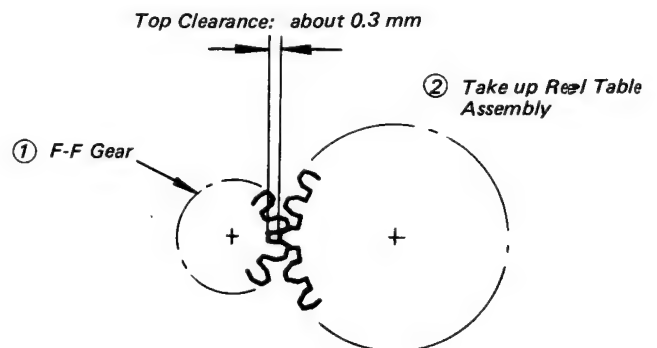

Fig. 5-49 Fast-Forward Gear Engagement Adjustment
### 13-1. Checking (Fig. 5-49)
5. Check to insure that the top clearance of the gears is 0.3 mm (see Fig. 5-49).
### 13-2. Adjusting the Fast-Forward Gear Engagement (Fig. 5-49, 5-50)
2. Loosen the two screws (4) holding the Fast-Forward solenoid (3).
3. Slide the Fast-Forward solenoid (3) in the direction B (→).
4. Set the VCR in the Fast-Forward mode of operation to energize the Fast-Forward solenoid (3).
5. Move the Fast-Forward solenoid (3) by pressing a bladed screwdriver to the rectangular hole on the reel chassis until the gear top clearance is 0.3 mm (see Fig. 5-49).
6. Tighten the screws (4).
7. If the Fast-Forward solenoid (3) is defective in the plunger attraction, then replace the Fast-Forward solenoid (3) by following Item 13-3 below.